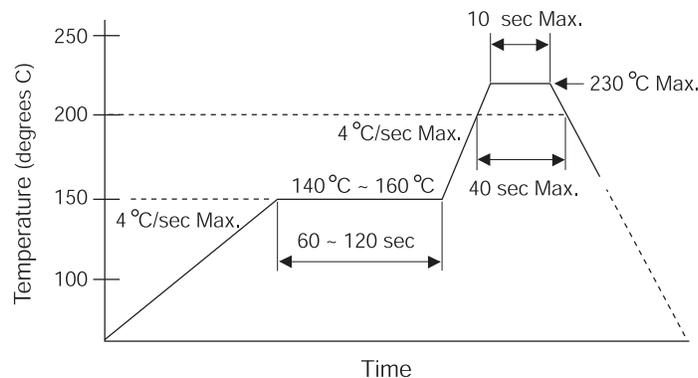

Figure 12. Temperature Profile for the Top Surface
- The temperature profile at the top surface of ZHX1200, shown in Figure 12, is recommended.